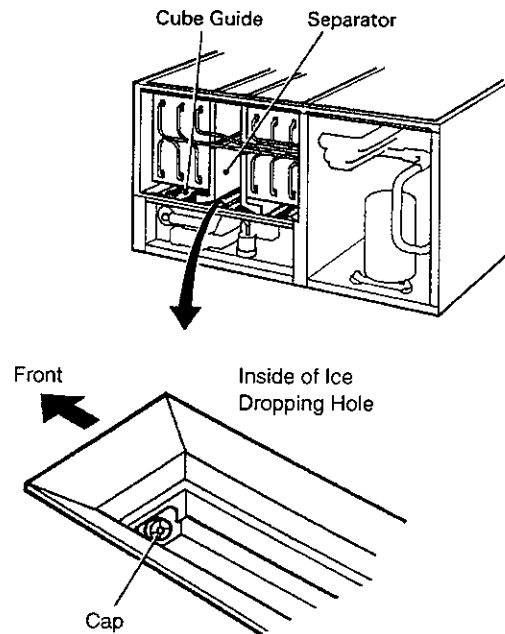

Fig. 5
- 3) Drain the Water Tank by removing the Insulation Panel and the Cap located on the front bottom part of the Ice Dropping Hole. See Fig. 5.
5) Drain the Water Tank by removing the Cap located on the front bottom part of the Ice Dropping Hole. See Fig. 5.